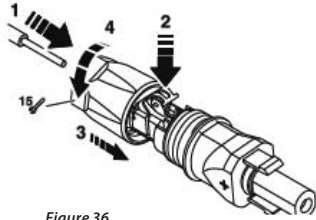

Figure 36
3 Disconnect the connectors (Figure 36)
- 1 Insert the screwdriver as shown in Figure 36.